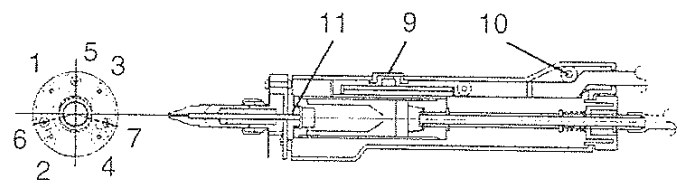
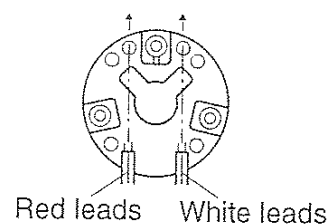

Fig. 2
Fig. 3
5. Remove the screws securing the housing (10) and the flange (3), (4). Fig. 2.
6. Remove the front holder (11). Fig. 2
7. Remove the screws (5), (6), (7) securing the heating element to the flange, and the screws (1), (2).
9. Secure a new heating element (24V–60W) to the flange with screws (5), (6), (7). Install the heater in such a way that the lead wires are oriented as in Fig. 3.